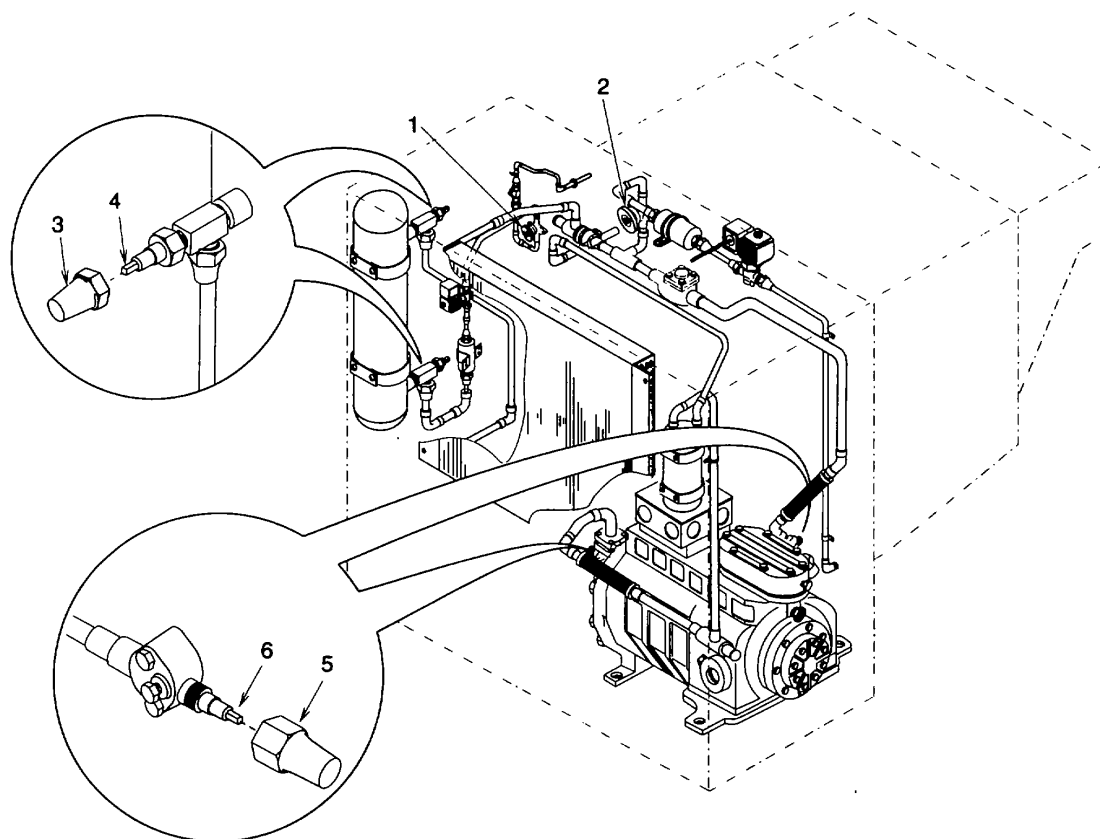

Figure 4-4. Refrigeration Valve Setting for Normal Operation
- b. Fully open both stop valves (1, fig. 4-4) and (2).